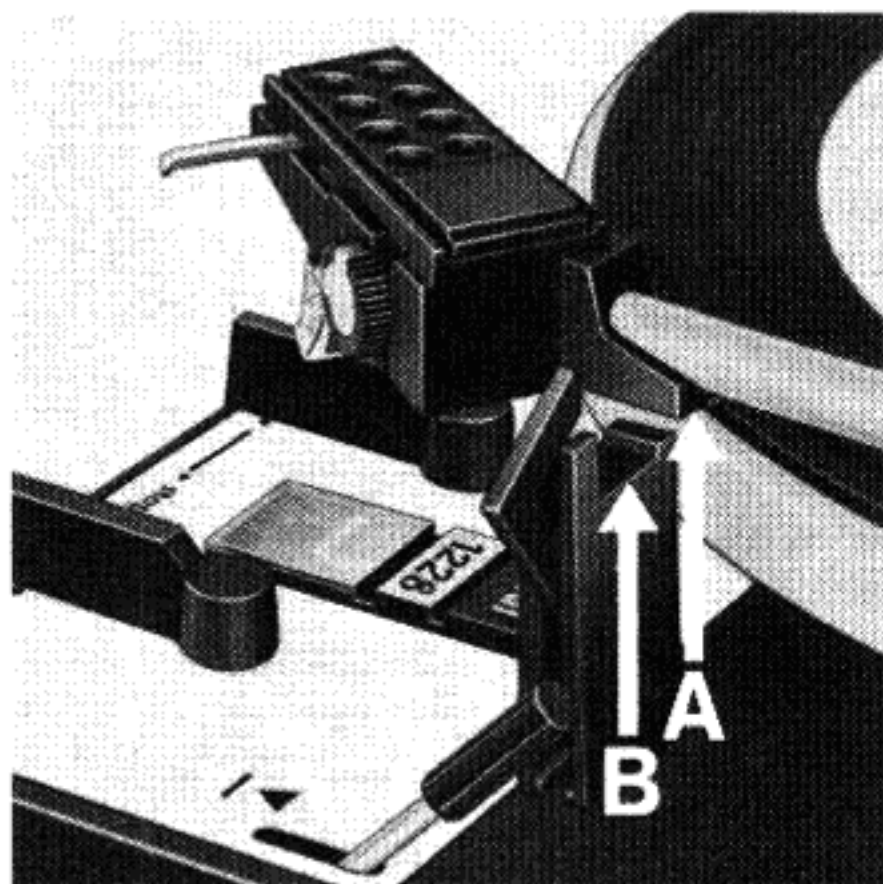

Fig. 15
1. Set stylus pressure dial ⑨ and anti-skating dial ⑪ to "0" (zero).
3. If the tonearm does not come to rest horizontally, loosen setscrew (F) and slide the counterbalance with its shaft until an approximate balance has been achieved. Then secure the shaft of the counterbalance by tightening the setscrew.
4. Now find the exact balance by turning the counterweight. The tonearm is exactly balanced when edge "A" of the tonearm head profile is at precisely the same height as edge "B" of the tonearm rest (Fig. 15), or when the tonearm, after being tapped into vertical posi-